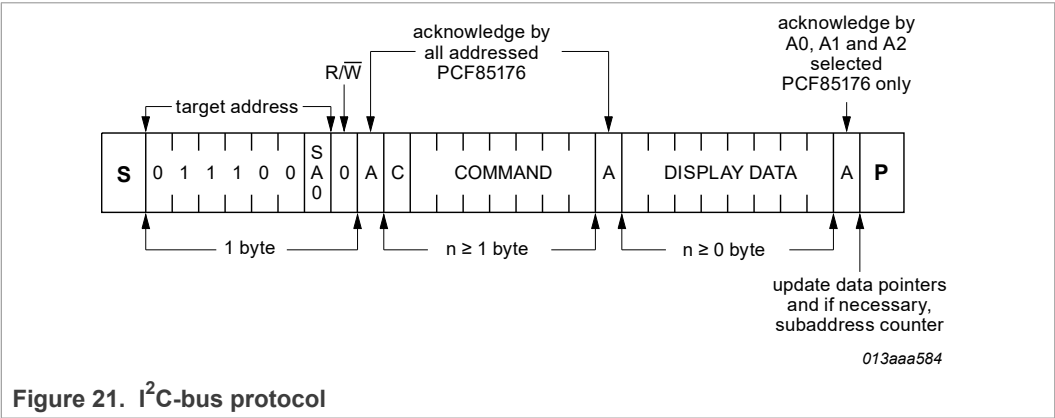

Figure 21. I2C-bus protocol
The I2C-bus protocol is shown in Figure 21. The sequence is initiated with a START condition (S) from the I2C-bus controller which is followed by one of the two possible PCF85176 target addresses available. All PCF85176 whose SA0 inputs correspond to bit 0 of the target address respond by asserting an acknowledge in parallel. This I2C-bus transfer is ignored by all PCF85176 whose SA0 inputs are set to the alternative level.